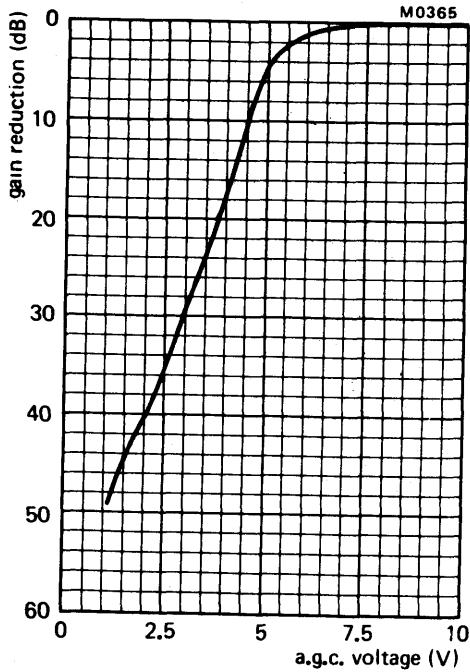

Fig. 3 Typical a.g.c. characteristic, low v.h.f. band.
A.G.C. voltage (Figs 3, 4 and 5)